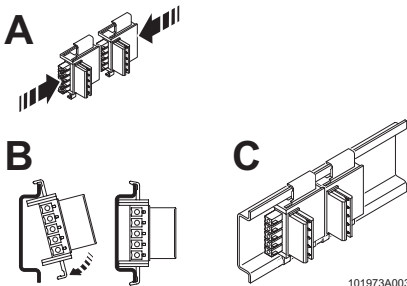

Figure 8 Combined assembly
- Connect together the required number of DIN rail connectors for the connection station. Two DIN rail connectors are required for each device (see A in Figure 8). A maximum of ten devices are permitted in a connection station.